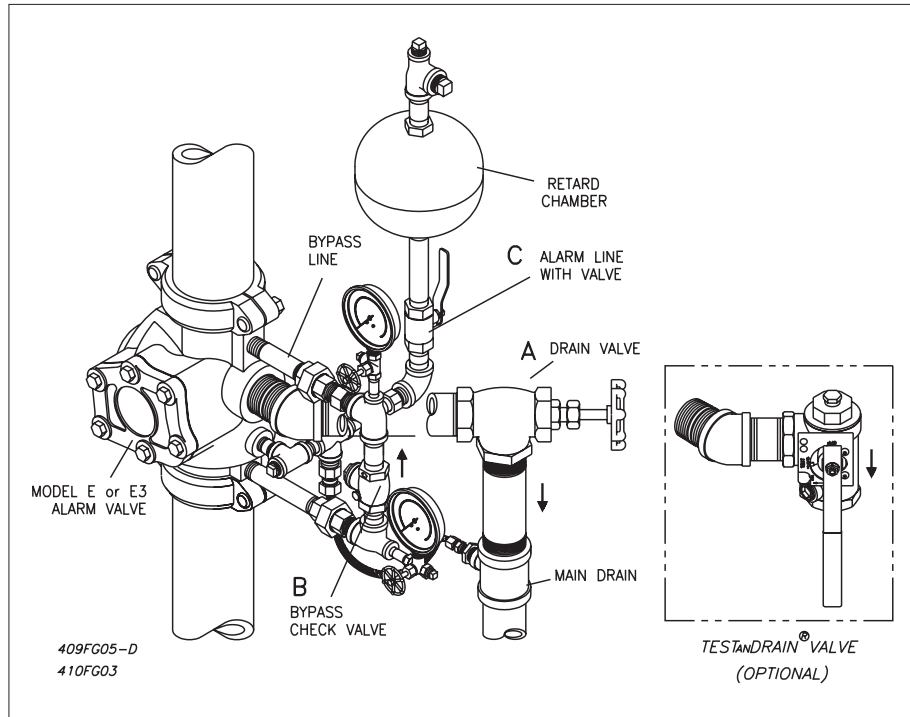

Fig. 3 E3 Vertical Trim
Water now flows through the uncovered groove and alarm line into the retard chamber. Once the retard chamber is filled the water flow activates the mechanical and electrical alarms (Figs. 3 & 4).
- The by-pass connection with check valve (Figs. 3 & 4) allows pressure surges from the supply to by-pass the alarm valve clapper. An excess system pressure is thus created which steadies the clapper. Should a heavy surge unseat the clapper and permit water to flow into the alarm line, the retarding chamber then comes into action.
The basic trims for the Reliable Model E3 High Pressure Alarm Valve (Figs. 3 & 4), are arranged for rapid, easy and compact attachment, and serve as connection points to Reliable alarm and other devices. They also act as a means for testing the operation of the alarm devices without causing the system to operate. The Model E3 high pressure alarm valves are available in two trims and may be installed in the vertical or horizontal position in the main supply to the wet pipe system:
- A TestANDrain® valve segment is optional, to be purchased separately, as a replacement to the valve (Figs. 3 & 4).